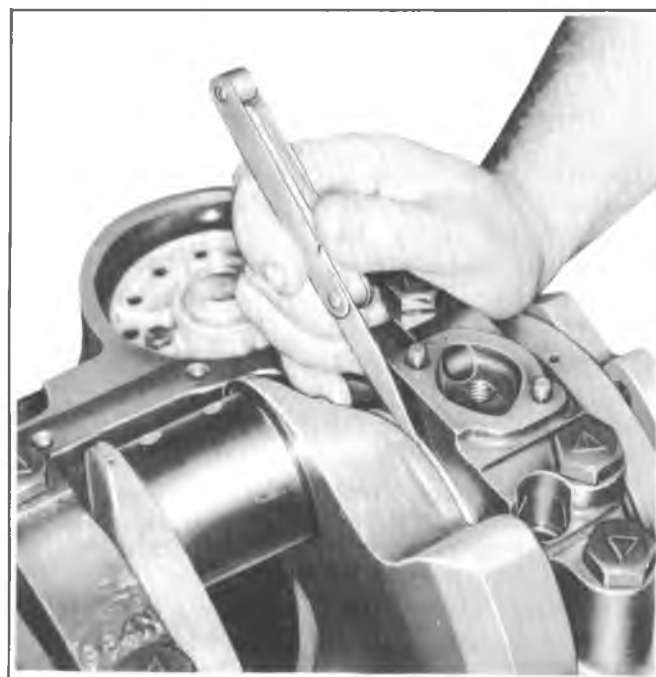

Fig. 6A5-46--Measuring Crankshaft End Play
9. Measure crankshaft end play (see specifications) by forcing the crankshaft to the extreme front position. Measure at the front end of the rear main bearing with a feeler gage (fig. 6A5-46).